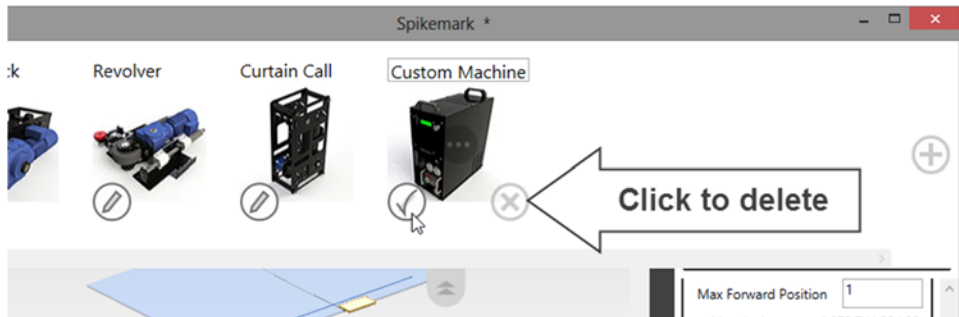

Figure 172
4. A Delete button will appear in the lower right corner of the thumbnail. Click the Delete button (Figure 172).